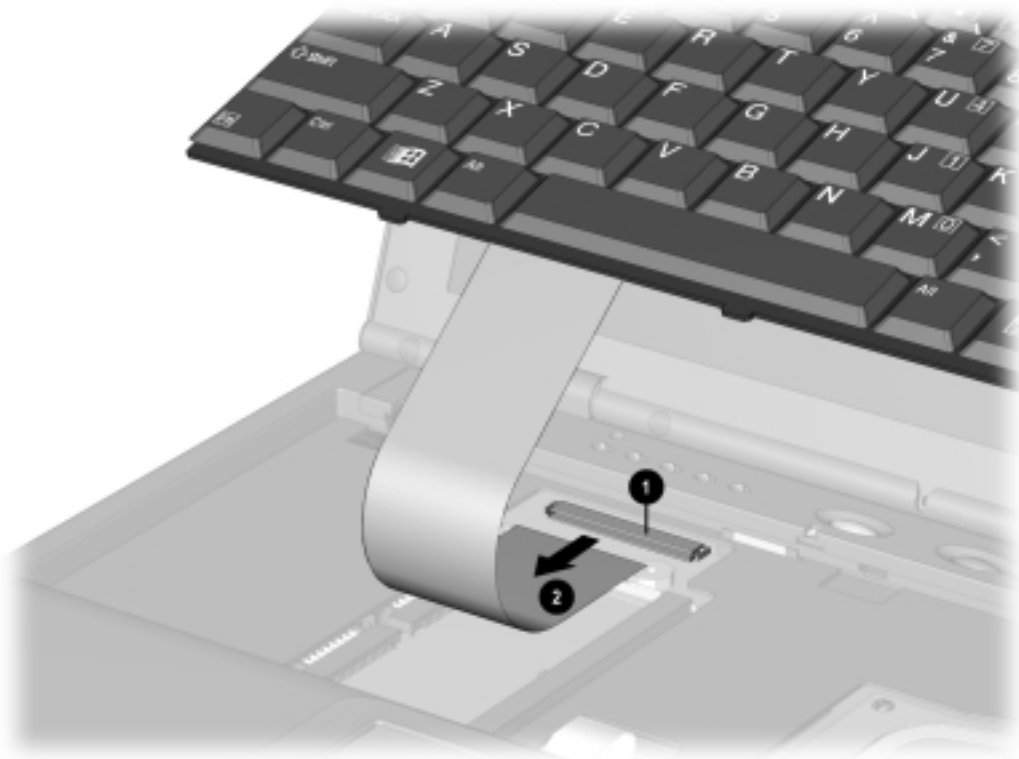

Figure 5-15. Disconnecting the Keyboard Cable
4. Use the connector removal tool to release the keyboard cable from the ZIF connector ❶ (Figure 5-15).
5. Use the connector removal tool to disconnect the keyboard cable ❷.